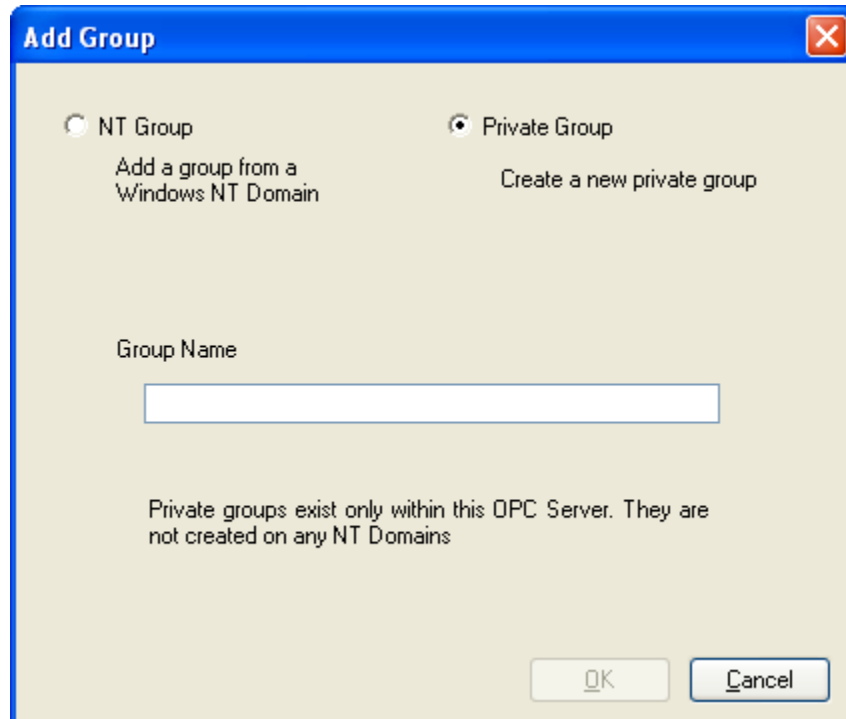

Figure 74 - Add Group Window (Private)
- Select the **Private Group** option button (Figure 74).